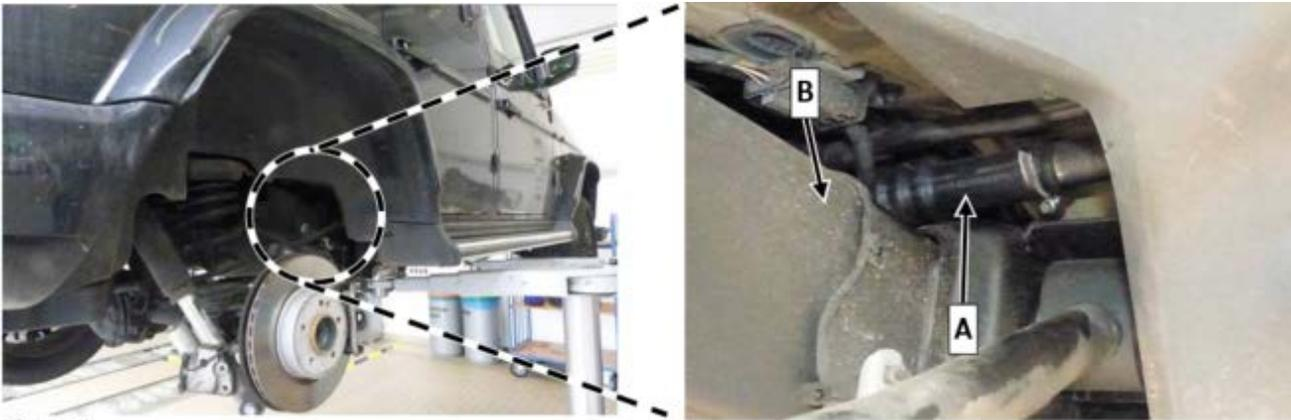

Figure 1
3. Check tank filler hose (**A, Figure 1**) above vehicle frame (**B, Figure 1**) for leaks.